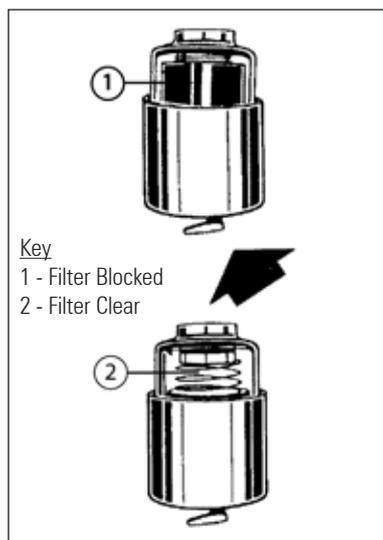

Figure 7a. Maintenance Indicator
The filter element should be changed when the maintenance indicator shows red (Fig. 7a/1).
The maintenance indicator indicates the state of the filter element in the Inlet air filter. The filter element should be replaced/cleaned when the Maintenance indicator enters the red portion of the blockage scale (Fig. 7a/1)
- The maintenance indicator is again ready for service (Fig. 7a/2).